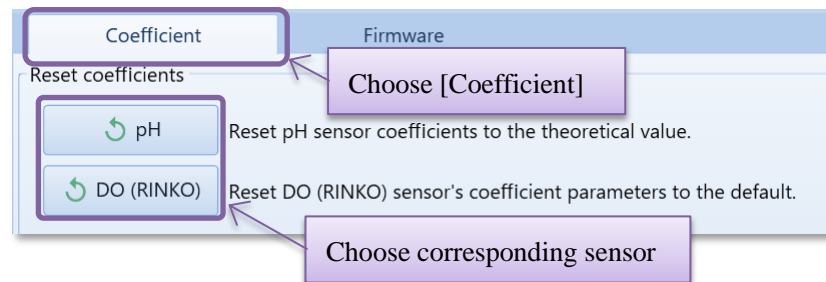

Figure 6.51 Calibration coefficients reset screen
- (1) Open “Troubleshooting” window.
- (2) Choose “Coefficient” in “function selection”. (Figure 6.51)
- (3) Open “Select coefficient” window by choosing corresponding sensor. (Figure 6.51)